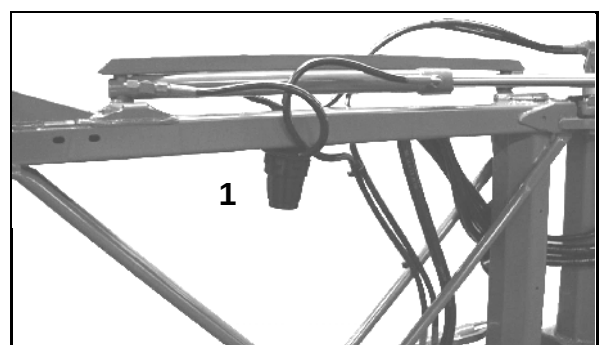

Fig. 125
- Clean the hose filters (Fig. 125/1) depending on the operational conditions approx. every 3 – 4 months.